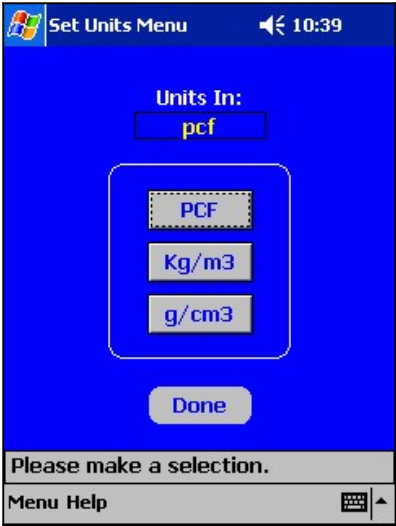

Figure 5-4. Set Units Menu
The Model 3451 can display measurement results in either metric (SI) or U.S. units. To set the units, press the **(Units)** button on the **Gauge Setup** menu shown on page 5-2. The PDA displays the **Set Units Menu** shown in Figure 5-4.